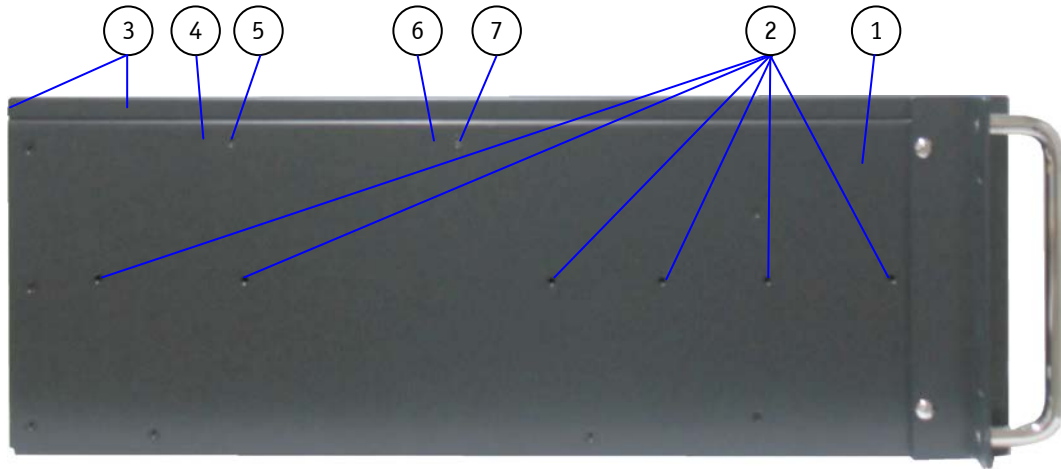

Fig. 25: KISS 4U V2 platform – side view
Five M4 metric tapped holes are available at the left and right side of the unit (Fig. 25, pos. 2). These can be used in order to attach slide rails [not included; see chapter 11 "Slide Rails (Option)"] to the KISS 4U V2 platform for system installation into a 19" industrial cabinet.
| <p>1 Threaded holes for the externally accessible fastening screws (Fig. 25, pos. 5 and pos. 7)</p> <p>2 Holes for the internal bolts (Fig. 25, pos. 4 and pos. 6)</p> | <p>3 Notches for the fastening screws that secure the card hold down brackets to the internal brackets</p> <p>4 Threaded hole for attaching the retaining bracket</p> |